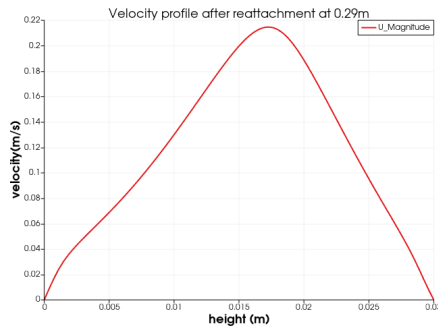

Figure 9: Velocity profile after A\*
- **In Fig 9** which is after  $A^*$  (0.29 m) due to **no slip boundary condition** velocity at the boundary is 0 m/s and at approx 0.019 m it is highest as the flow passes at high velocity through there. you will observe a small variation initially this signifies the flow is reattached and the velocity is more at that height as compared to at  $A^*$ .